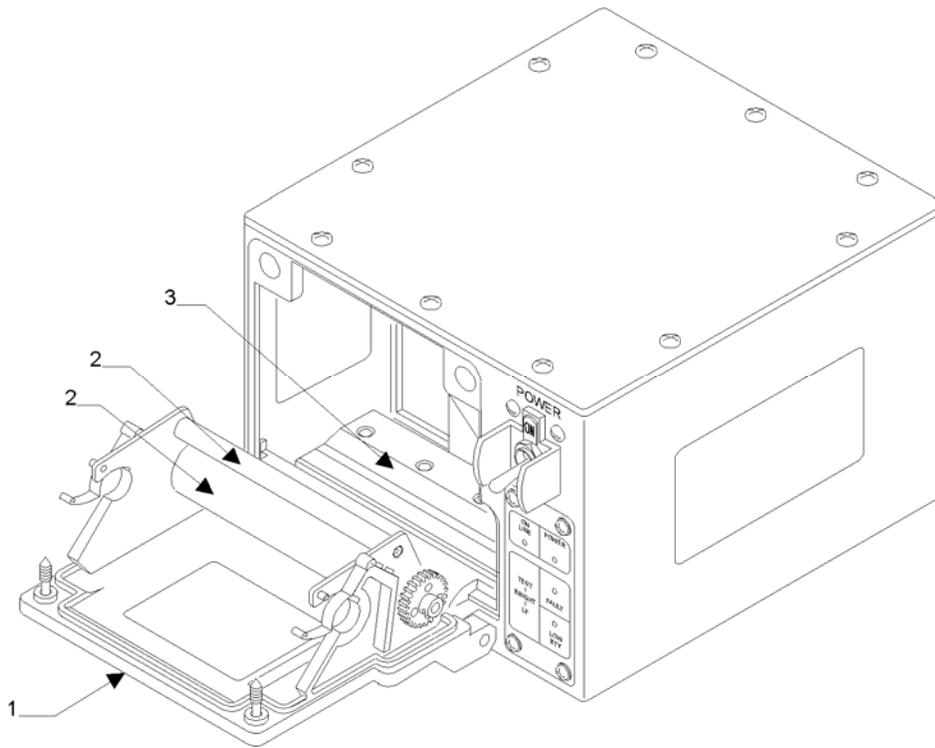

Figure 5-1. Printer Cleaning
- Step 2. Open the printer door (1, Figure 5-1) and remove any installed paper (Chapter 4, paragraph 4-3.2).
- Step 1. Open the printer door (1, Figure 5-1) and remove paper supply (Chapter 4, paragraph 4-3.2).